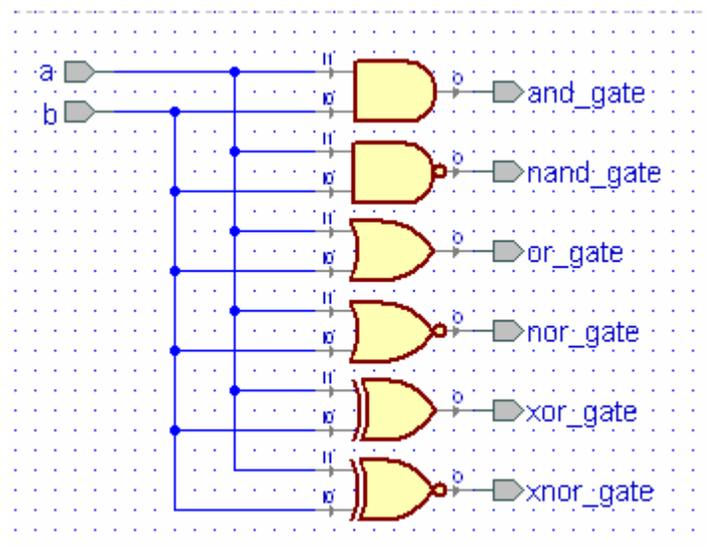
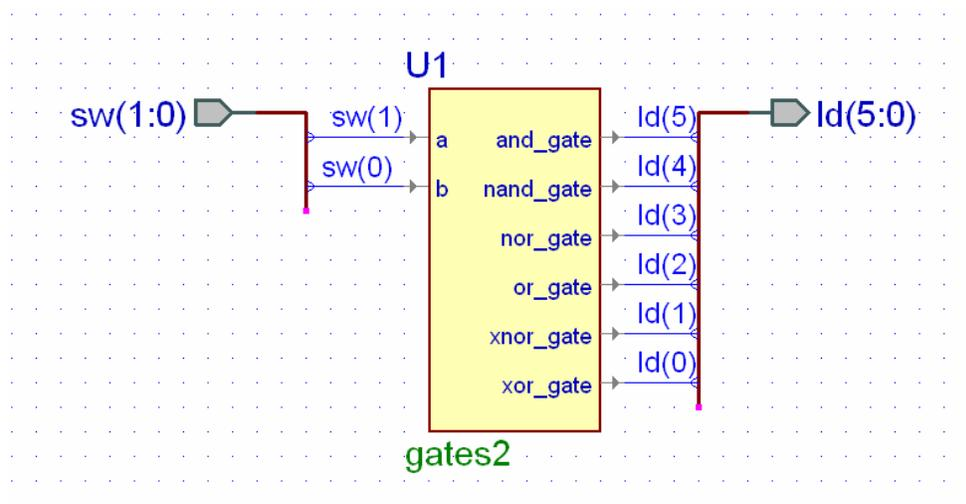

Figure 2.1 Circuit diagram for Example 2
Figure 2.3 Top-level design for Example 2
Part 4 of the tutorial in Appendix A shows how to connect two inputs *a* and *b* to the inputs of six different gates using the block diagram editor (BDE) in Active-HDL. The result is shown in Fig. 2.1. Note that we have named the outputs of the gates the name of the gate including an underscore. Identifier names in VHDL can contain any letter, digit, underscore `_`, or `$`. The identifier can not begin with a digit or be a VHDL keyword. VHDL is *not* case sensitive.
The logic diagram in Fig. 2.1 contains six different gates. This logic circuit is described by the VHDL program shown in Listing 2.1. The first line in Listing 2.1 is a comment. Comments in VHDL follow the double dash `--`. All VHDL programs begin with an *entity* statement containing the name of the entity (*gates2* in this case) followed by a list of all input and output signals together with their direction and type. We will generally use lower case names for signals. The direction of the input and output signals is given by the VHDL statements *in*, *out*, or *inout* (for a bi-directional signal).
To describe the output of each gate in Fig. 2.1 we simply write the logic equation for that gate preceded by the assignment operator, `<=`. These are *concurrent* assignment statements which means that the statements can be written in any order.
Part 5 of the tutorial in Appendix A shows how to create a top-level design for the *gates2* circuit. In order to use the constraint files *basys2.ucf* or *nexys2.ucf* described in Example 1 we must name the switch inputs *sw(i)* and the LED outputs *ld(i)*. This top-level design, as created in Part 5 of Appendix A is shown in Fig. 2.3. The module *gates2* in Fig. 2.3 contains the logic circuit shown in Fig. 2.1. Note that each wire connected to a bus must be labeled to identify its connection to the bus lines.
Compiling the top-level design shown in Fig. 2.3 will generate the VHDL program shown in Listing 2.2. The inputs are now the two rightmost slide switches, $sw(1:0)$, and the outputs are the six right-most LEDs $ld(5:0)$. To associate these inputs and outputs with the inputs a and b and the six output in the $gates2$ component in Fig. 2.1 and Listing 2.1 we use the VHDL *port map statement*
This VHDL *port map* statement begins with an arbitrary name for the component in the top-level design. Here we call it U1. This is followed by the name of the component being instantiated, in this case *gates2* from Listing 2.1. Then using the *port map* statement enclosed in parentheses are the inputs and outputs from Listing 2.1 associated with corresponding inputs and outputs in the top-level design in Fig. 2.3. Note that we connect the input *a* in Listing 2.1 to the input *sw*(1) on the FPGA board. The input *b* in Listing 2.1 is connected to *sw*(0) and the outputs *and_gate*, *nand_gate*, *or_gate*, *nor_gate*, *xor_gate*, and *xnor_gate* are connected to the corresponding LED outputs *ld*(5:0). These associations can be made in this way in any order. The *port map* statement in Listing 2.2 generated from the top-level block diagram are associated in alphabetical order.